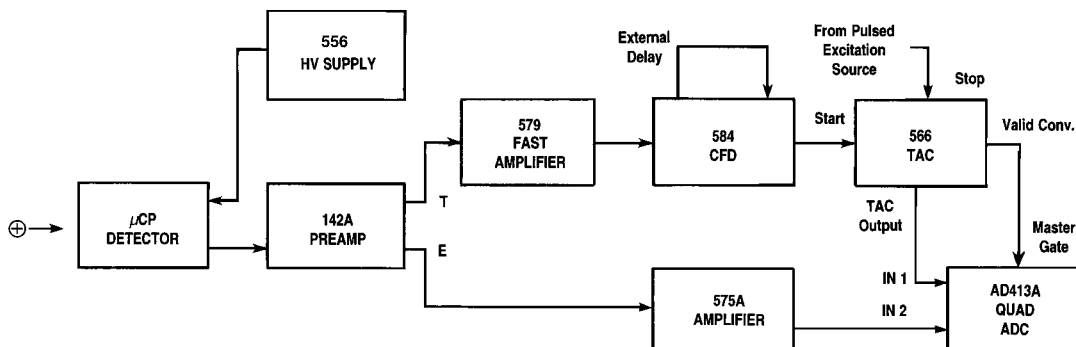

Fig. 13. Simultaneous Time and Pulse-Height Measurement With a Microchannel Plate Detector.
Note that the Model 142A/B/C Preamplifier in Fig. 7 provides simultaneous outputs for both time (T) and energy (E) spectroscopy. See Fig. 13 for an elaboration on this method.
When a detector offers only a single output, but both time and pulse-height spectrometry are required, the system in Fig. 13 provides a practical solution. The Model 142A Preamplifier accepts the single detector output and delivers separate preamplifier outputs for timing (T) and pulse-height or energy (E) measurements. This scheme preserves the low noise required for pulse-height spectrometry, while offering a fast rise time for time spectrometry. The method is useful for microchannel plate detectors, microchannel plate PMTs, Si charged-particle detectors, and Ge detectors. For best performance, the length of the connection between the detector and the preamplifier should be as short as possible.